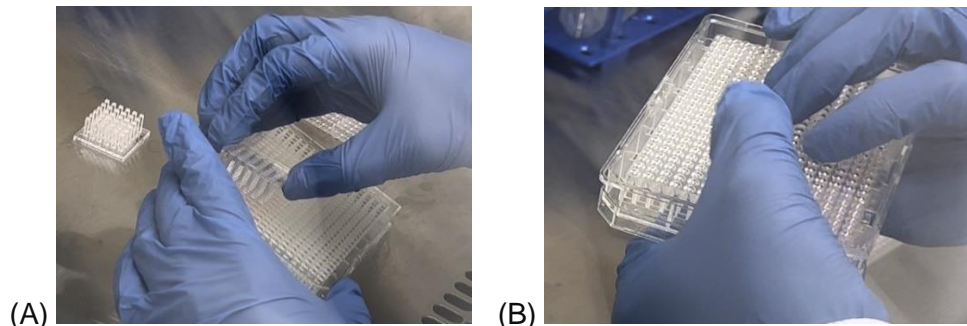

Figure 6. (A) Inserting of the 36PillarPlate in the ULA 384-well plate with spheroids. **(B)** Inverting of the sandwiched plates for spheroid transfer.
- Align one pillar located in the corner of the 36PillarPlate with one well in the ULA 384-well plate, insert the pillar plate with Matrigel in the ULA 384-well plate with spheroids, cover the sandwiched plates with a 384-well plate lid, leave the sandwiched plates for 1 – 2 minutes on a flat surface for letting the spheroids settle down in the center of the 384-well bottom, and then quickly invert the sandwiched plates (with the pillar plate down) for spheroid transfer (**Fig. 6**).